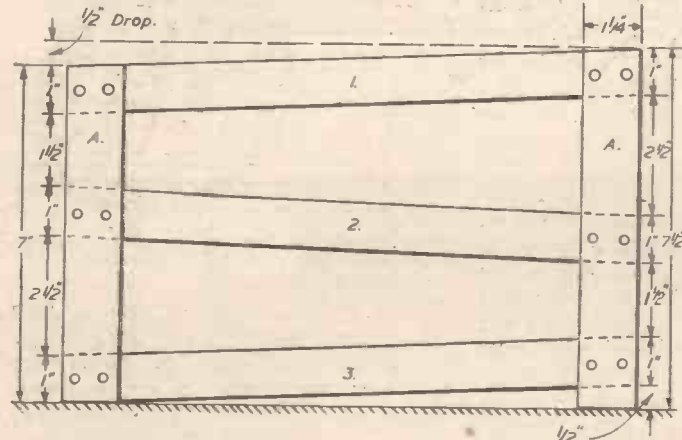

Fig. 2.—Details and dimensions of the frame and tray angles.
First the trays (1), (2) and (3) are made as Fig. 2. Trays (1) and (2) are the same size, but the lower tray (3) has the base 2 in. longer. The sides (d) are all the same lengths, being 12 in. long and 1 in. deep, 1/4 in. wood being used. These are fastened to the base (c) by a series of short pins (the base overlapping the sides) and spaced by the three pieces (a), (b) and (c) going across.
The trays made, they are fitted between the four uprights (A) (see Fig. 2 to the left). For the lower end, these are 7 in. x 1 1/4 in., and for the higher end of the washer 7 1/2 in. x 1 1/4 in. Any 1/4 in. or 3/8 in. material will do for them.
spilling from the end of the tray above and empties into the one below. Fig. 2 gives the measurements to work to to obtain